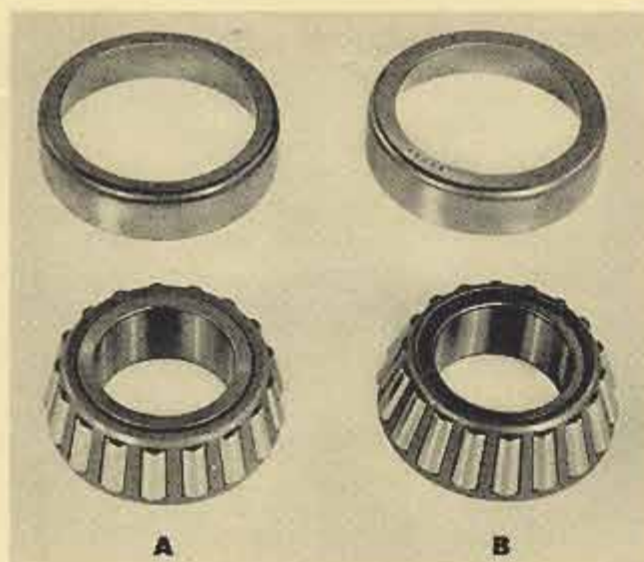

Fig. 1
1. Fig. 1 shows the 25° rear pinion bearing and cup indicated by "A." The 40° rear pinion bearing and cup is indicated by "B." Note the difference in the angle of the rollers, also that the flat end section is wider on the 40° bearing cup.